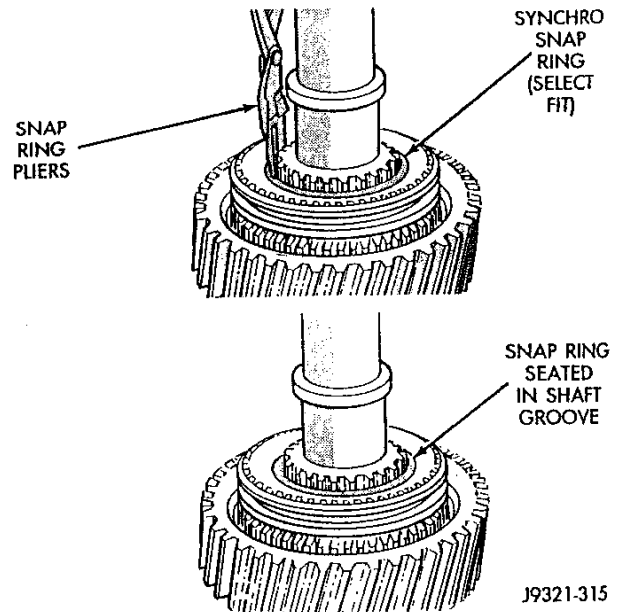

Fig. 49 Fifth-Reverse Synchro Snap Ring Installation
(20) Install fifth-reverse synchro snap ring (Fig. 49). This is a select fit snap ring. Use thickest snap ring that will fit in shaft groove and be